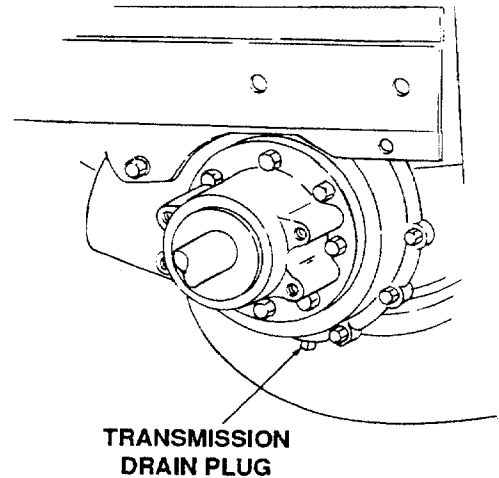

Figure 22
2. Clean the area around the transmission drain plug. Remove the drain plug and allow the transmission oil to drain into a clean container having a capacity of more than 6 quarts. Replace drain plug. (Refer to Figure 22.)